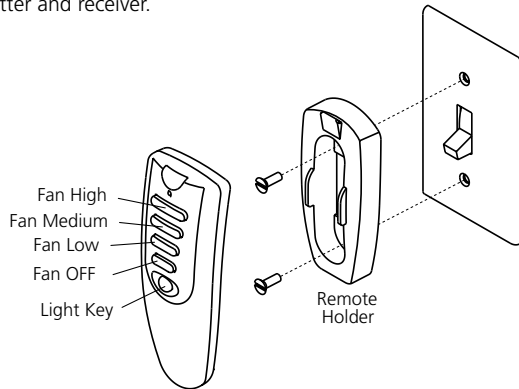

Figure 4 - Remote Holder Assembly
2. Mount the remote holder over the ceiling fan's wall switch using the existing wall plate screws. Refer to Figure 4.
2. Press the remote control's HIGH speed button (refer to Figure 4). The fan should start and reach it's maximum speed. If the fan does not start, or is turning too slow, turn off the power at the wall switch. Pull the fan's pull chain to change speed. Reapply power and try High speed again. Repeat this procedure until you have confirmed that the fan's pull chain is set to HIGH speed.